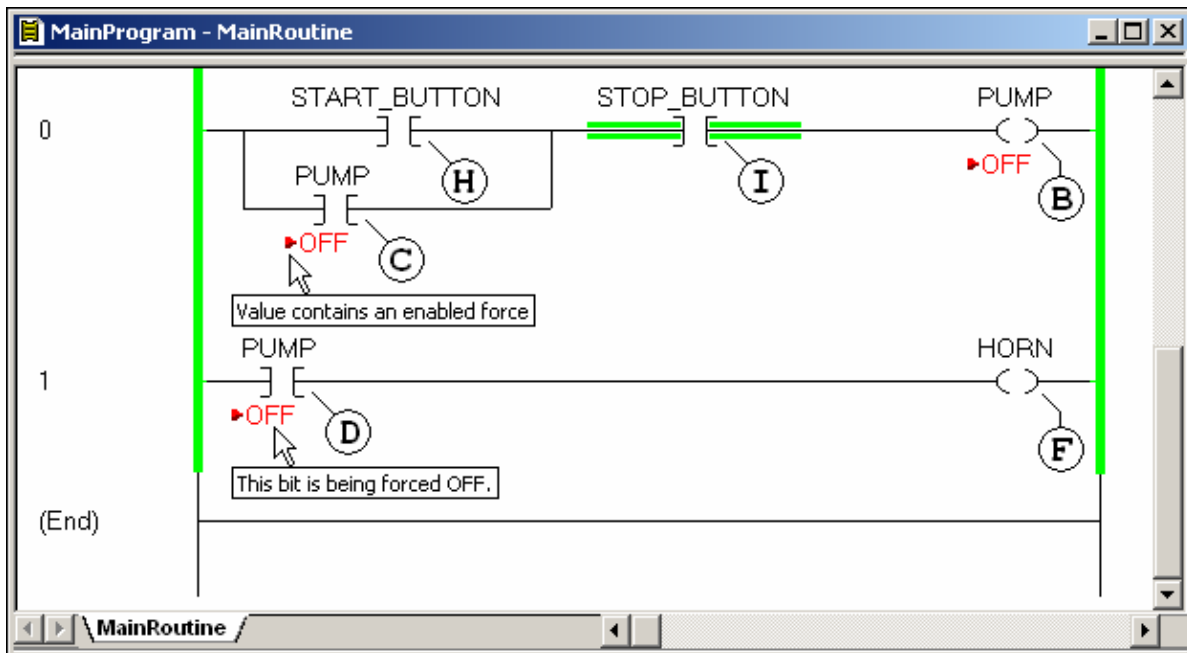

Figure 4 - Program with Pump Forced OFF
The simple exercises below are similar to those used in our PLC Boot Camp classes to drill every student on the differences between how the "Toggle Bit" feature and the "Force" feature each affect the control system. We'll keep it as simple as possible by using the same wiring and rung structure that we used in the first part of this quiz. Figure 4 shows that we've forced the Pump OFF for our next series of questions.
The screen shot for Figure 4 is taken from Version 15 of RSLogix5000 for a ControlLogix system. Notice that the RSLogix5000 software has "Tool Tips" that pop up when the mouse is held over the "Force" items on the screen. Pointing to the word "OFF" (as shown at Position D) tells us: "This bit is being forced OFF". Pointing to the little "Force Enabled Icon" (as shown at Position C) tells us that the: "Value contains an enabled force".
**Question 8** - Begin with the conditions shown in Figure 4. Notice that all of the OTE and XIC instructions associated with the Pump are marked as forced OFF and that the forces are currently enabled. The **Pump** device in the field is OFF. Choose the BEST answer which MOST LIKELY describes the operation of the **Horn**.
**Question 9** - Begin with the conditions shown in Figure 4. Notice that all of the OTE and XIC instructions associated with the Pump are marked as forced OFF and that the forces are currently enabled. The Pump device in the field is OFF. Suppose that we right-click and perform a "Toggle Bit" operation at **Position B**. Notice that Position B is an OTE to control the **Pump**. Choose the BEST answer which MOST LIKELY describes the operation of the **Horn**.
**Question 10** - Begin with the conditions shown in Figure 4. Notice that all of the OTE and XIC instructions associated with the Pump are marked as forced OFF and that the forces are currently enabled. The Pump device in the field is OFF. Suppose that we right-click and perform a "Toggle Bit" operation at **Position D**. Notice that Position D is an XIC for the **Pump** which is located in the control rung for the Horn. Choose the BEST answer which MOST LIKELY describes the operation of the **Horn**.
**Question 11** - Begin with the conditions shown in Figure 4. Notice that all of the OTE and XIC instructions associated with the Pump are marked as forced OFF and that the forces are currently enabled. The Pump device in the field is OFF. Suppose that we right-click and perform a "Toggle Bit" operation at **Position F**. Notice that Position F is an OTE to control the **Horn**. Choose the BEST answer which MOST LIKELY describes the operation of the **Horn**.